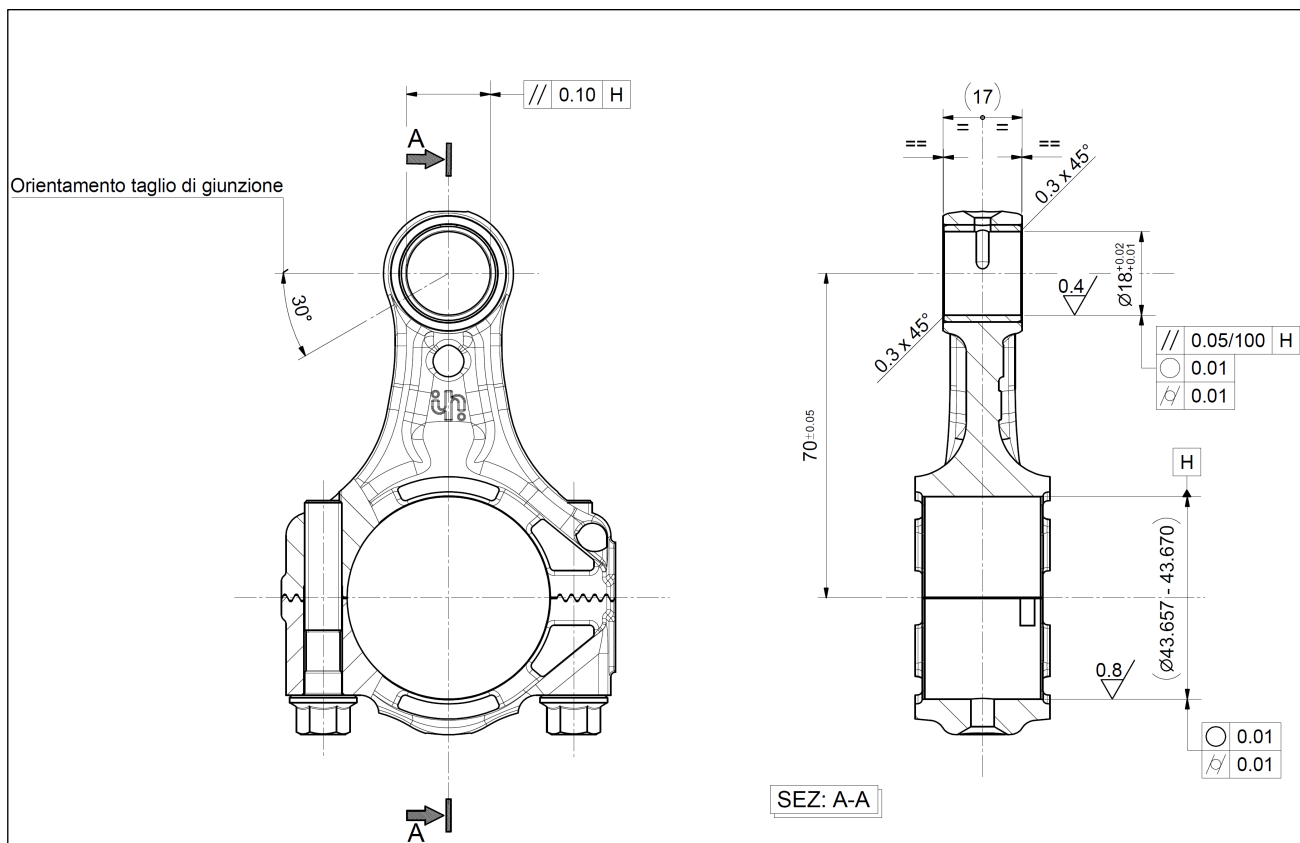

fig. 25
- the cutting junction is directed as shown in fig. 25.
Then perform mechanical processing. The dimensions and tolerances shown in fig. 25 **MUST** be respected.